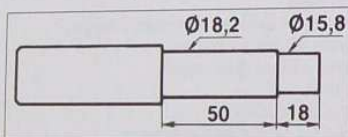

FIG.1
Fig. 1. A detailed technical drawing of a mechanical assembly, likely a pump or engine component, showing various parts and their connections. The drawing includes a large central component with a complex internal structure, a smaller component to the right, and a large cylindrical component at the bottom left. A dashed line labeled 'A' and a solid line labeled 'B' are shown, indicating different sections or components. The drawing is labeled with various numbers (1, 2, 3, 4, 5, 6, 7, 8, 9, 10, 11, 12, 13, 14, 15, 16, 17, 18, 19, 20, 21, 22, 23, 24, 25, 26, 27, 28, 29, 30, 31, 32, 33, 34, 35, 36, 37, 38, 39, 40, 41, 42, 43, 44, 45, 46, 47, 48, 49, 50, 51, 52, 53, 54, 55, 56, 57, 58, 59, 60, 61, 62, 63, 64, 65, 66, 67, 68, 69, 70, 71, 72, 73, 74, 75, 76, 77, 78, 79, 80, 81, 82, 83, 84, 85, 86, 87, 88, 89, 90, 91, 92, 93, 94, 95, 96, 97, 98, 99, 100) and letters (A, B).
- Mettre en place le disque d'embrayage, déport du moyeu côté boîte de vitesses, ressorts du moyeu amortisseur côté mécanisme, en utilisant un centreur approprié (outil Citroën 9513-T) ou un centreur universel (cotes de réalisation de l'outil de centrage fournies en mm Fig.1).